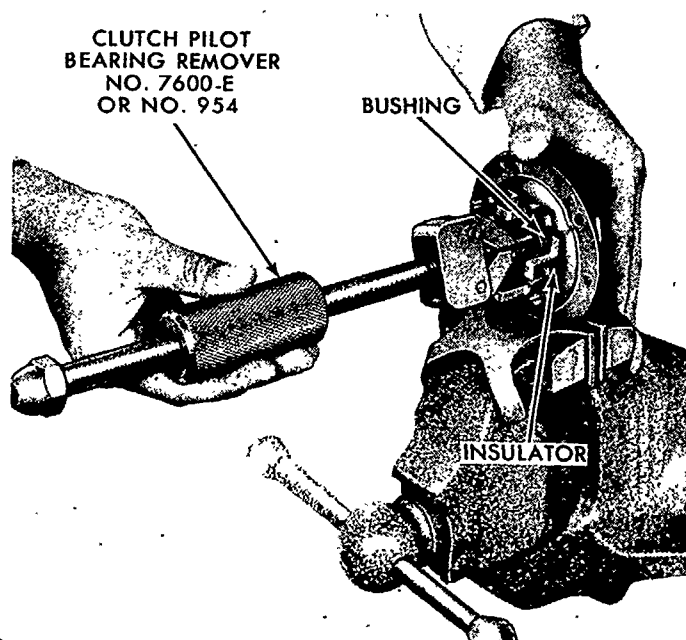

Figure 40
6. Install a new brush end plate assembly if the insulators between the field brush holders and the end plate are defective, see Figure 40.
1. **4½-Inch Starting Motor:** Remove the bushing from the brush end plate with clutch pilot bearing removal tool, No. 7600-E or No. 954. Refer to Figure 40.